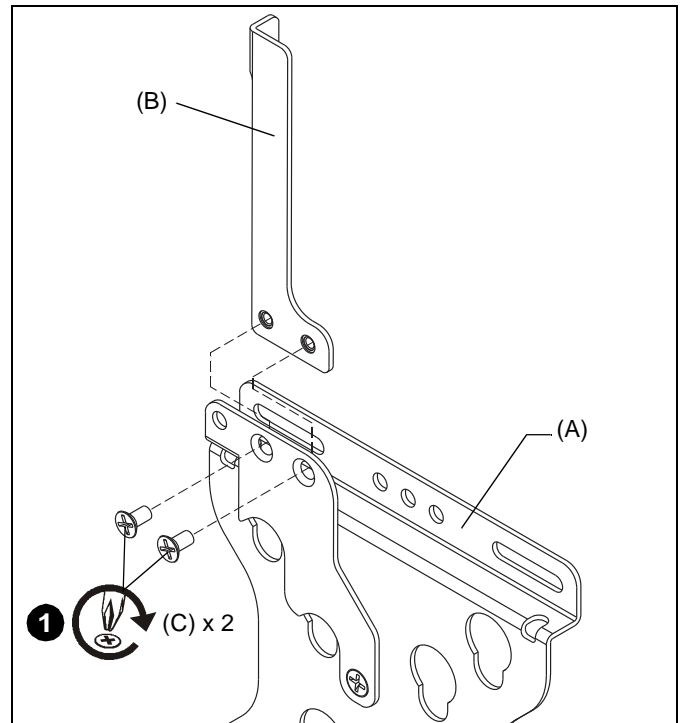

Figure 6
- OPTIONAL:** If installing a 32" or larger display, attach the flag extension (B) to the latching flag on the FSR1U/FSR100 using two 10-24 x 3/8" Phillips flat head screws (C). (See Figure 6)